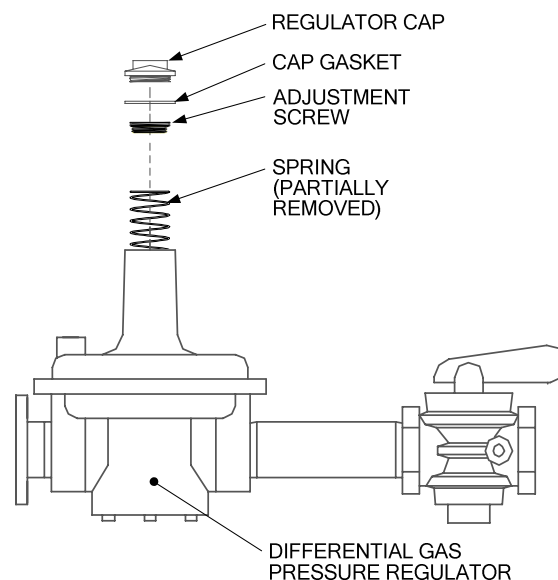

FIGURE 1. REGULATOR SPRING REPLACEMENT
3. Refer to Figure 1 and remove the cap on the differential regulator.